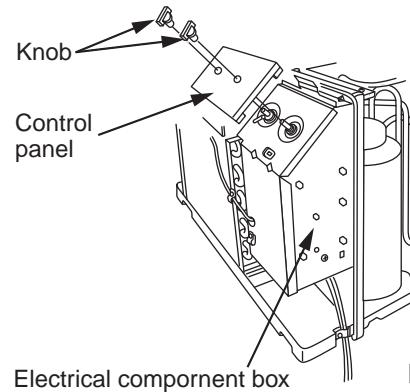

Fig. 3
- (1) Remove knobs and the control panel from the electrical component box. (Fig. 3)